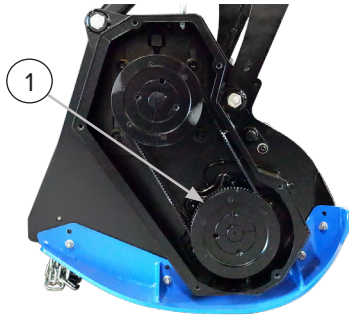

Figure 12
2. Apply reflective tape to the rotor pulley **Figure 12**, Item 1.